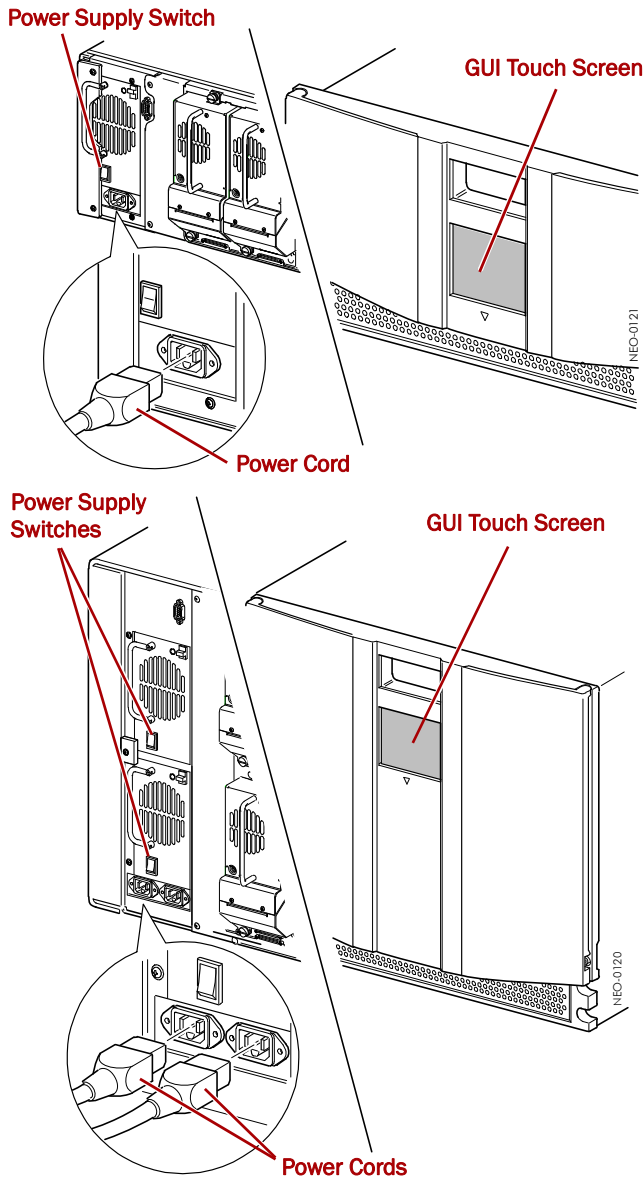

Figure 10. Powering Up NEO SERIES Library Module
1. Connect the supplied **power cords** to AC receptacles located on the back of the library module (Figure 10).